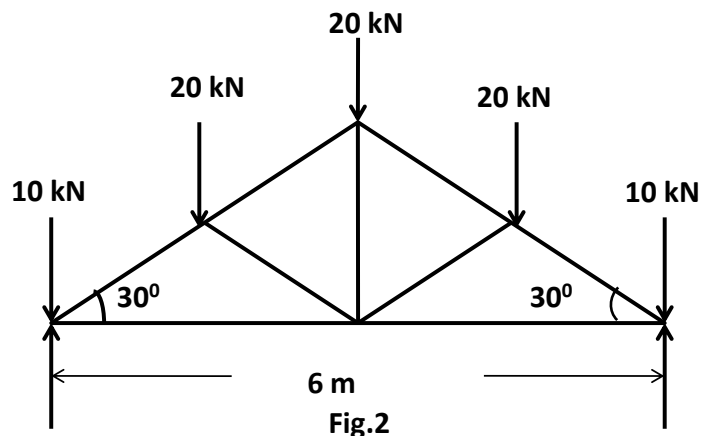

Fig.2
- (b) Determine forces in all members of simply supported truss loaded as shown in Fig. 2 by graphical method. **07**